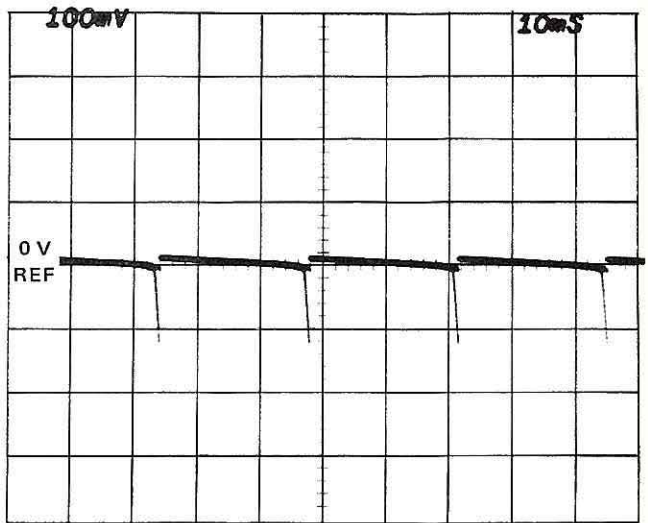

Fig. 6-9. Probe to Pin 9 of U280.
16. Push the 5S14N REP button (MAN button released). Change the test oscilloscope Amplifier to .1 V/Div and change the Time Base to 10 ms/Div. Move the probe to Pin 9 of U280 on the Horizontal board. Trigger the test oscilloscope for a waveform similar to that shown in Fig. 6-9.